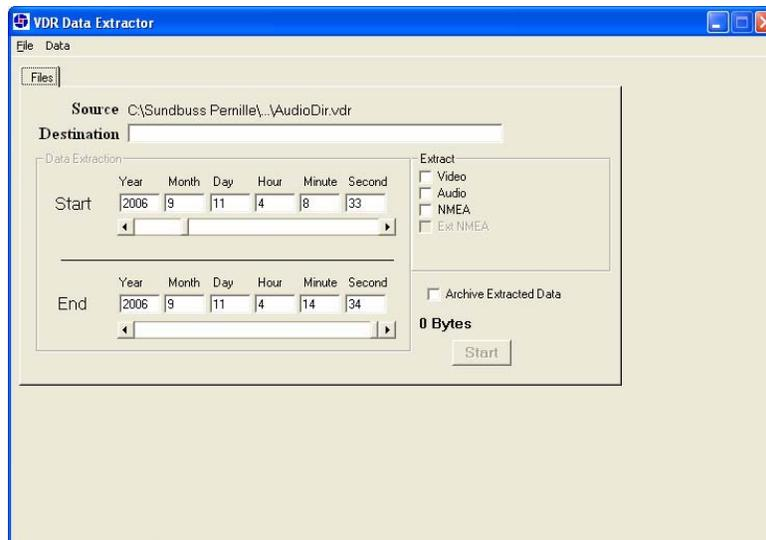

Figure 6-29 - Data Extraction Window
2. The Data Extraction window will open (see Figure 6-29 - Data Extraction Window below). This may take a number of seconds. The start time will automatically appear as the point in the playback where the Data Extraction window was opened.